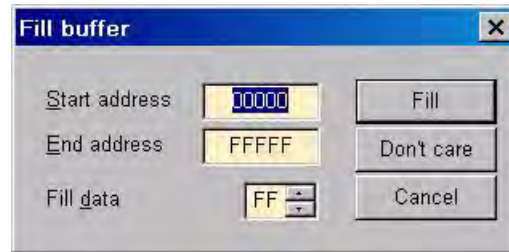

Figure 78. Fill Buffer Dialog
1. Select **Load Code HEX File** from the **HexData** menu to load a hexadecimal file from the host PC to a code buffer space generated by the In-System Programmer. The Fill Buffer dialog appears, as shown in Figure 78.